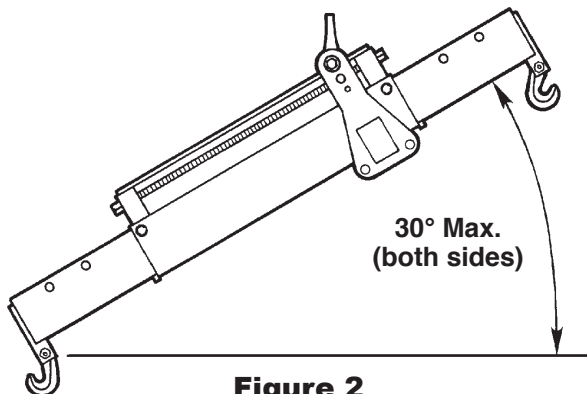
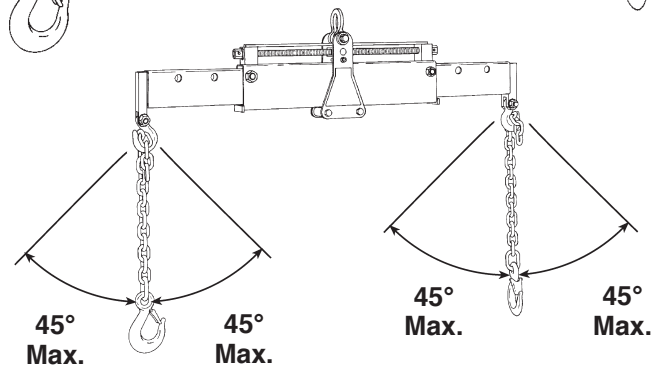

Figure 2
Figure 3
- Do not attempt to lift a load that exceeds the maximum capacity of 10,000 lbs. / 4,540 kg. Overloaded equipment can fail and cause personal injury. To ensure the load bearing chains are not stressed beyond their capacities, do not adjust the load rotor to an angle greater than 30° (see Figure 2), and do not spread the load bearing chains more than a total of 90° for both chains (see Figure 3).
- Do not adjust the load rotor to an angle greater than 30°. See Figure 2.
- Do not spread the load bearing chains more than a total of 90° for both chains. See Figure 3.